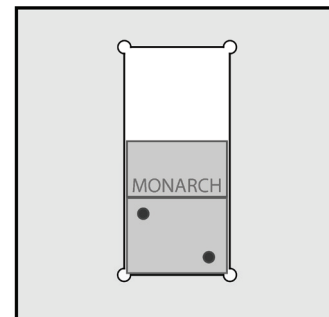

Figure 3.2.1
3.2.1 Fasten Z-clips to the cab wall at each open slot in the template as shown in Figure 3.2.1.